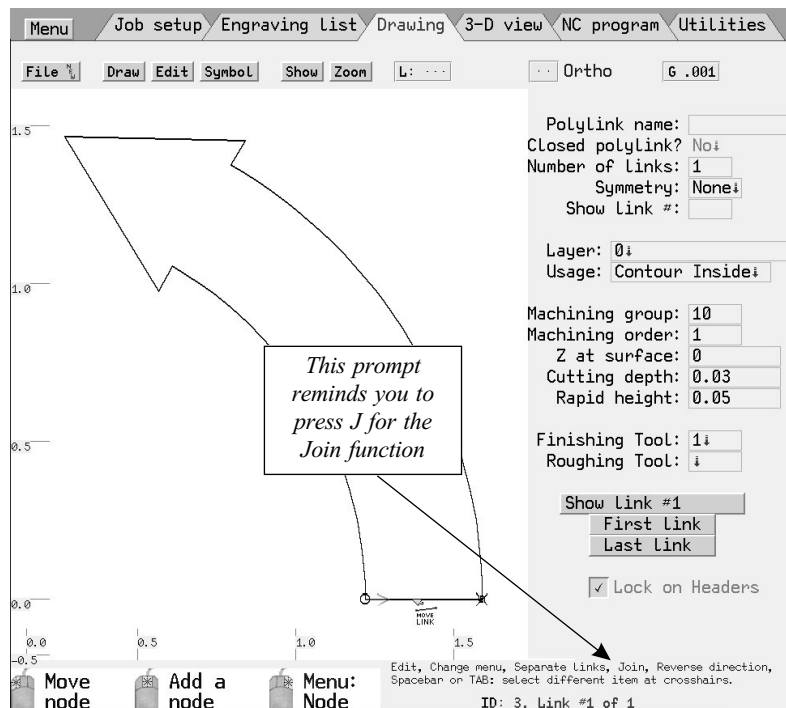

Figure 3-17
If you suspect a line (or arc) is on top of another line (or arc), you can quickly check for it by touching it with the mouse and looking at the lower right corner of the screen to see what the ID number of that item is, as in Figure 3-17. Then press the **[Spacebar]** or **[Tab]** key, which, as mentioned in Chapter 1, will force MillWrite to search for another item at that location. If there is a duplicate item, you will see the ID number change. You may also see the parameters on the right side of the screen change, if the other item has different parameters.
- Touch one of the lines or arcs with the mouse and press **[J]** for the **Join** function, as the prompt at the bottom right corner reminds you (Figure 3-17.)